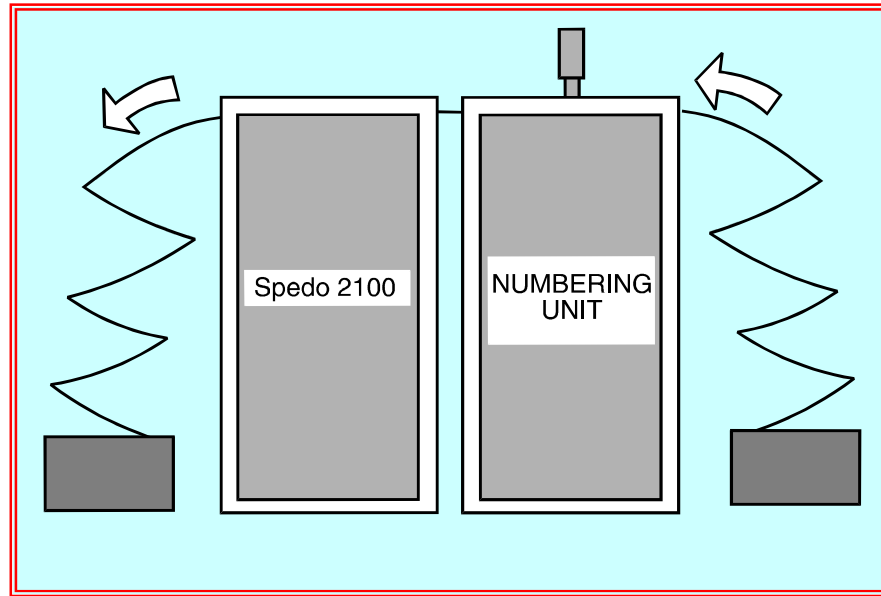

Fig 3.7 No-Cut Operation with On-Line Numbering Unit
- Note that when used in this mode, the forms cutter controls the paper feed. Having set up the numbering unit with the forms cutter, as shown in Fig 3.7 and loaded the paper on the forms cutter, proceed as follows.